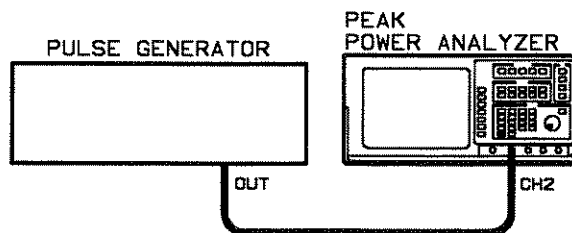

Figure 4-2. Checking Channel 2 and Channel 3 Risetime Equipment Setup
1. Set up the equipment as shown in Figure 4-2.